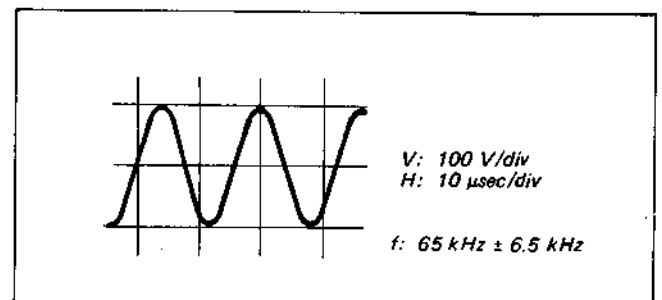

Fig. 5-34. Bias oscillator check
- (1) Set the input signal level to zero and set up the RECORD mode.
- (2) Connect a frequency counter to Pin ② of CN502. The reading should be 65 kHz \pm 6.5 kHz. (See Fig. 5-34.)